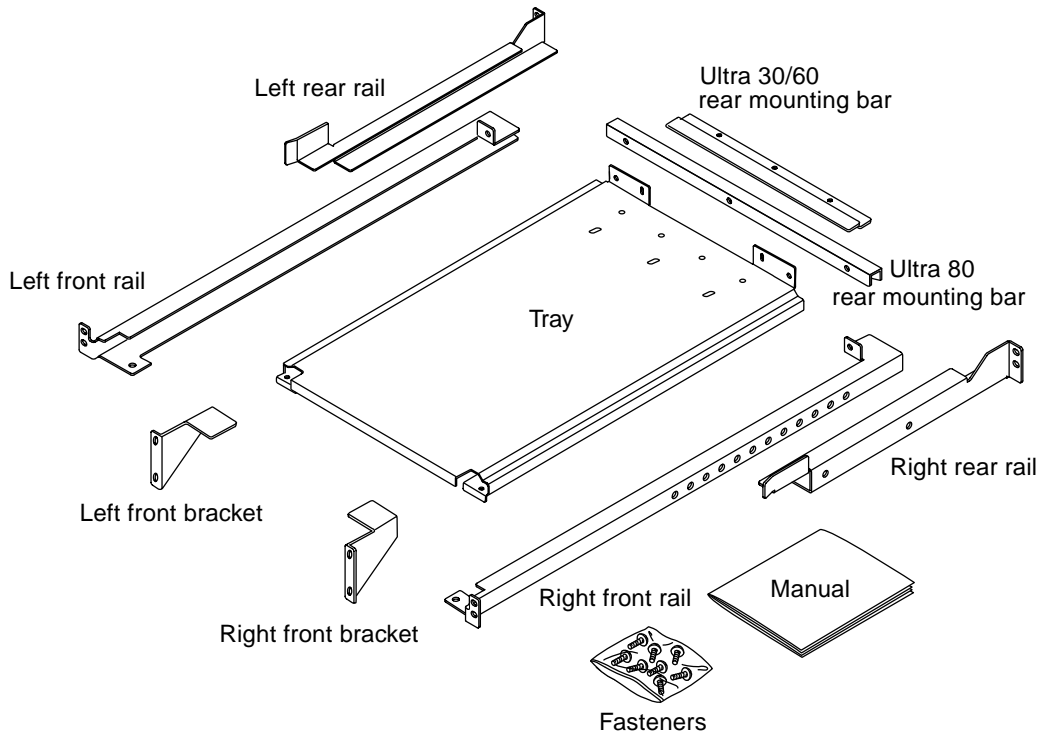

FIGURE 1 Rackmounting Kit Inventory
1. Unpack your rackmounting kit (FIGURE 1).